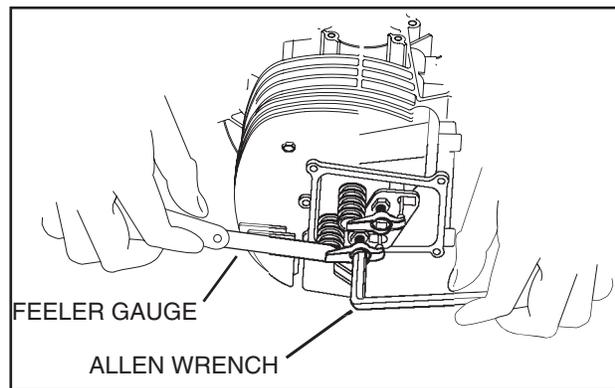

Figure 6-51. – Adjusting Valve Clearance
1. Loosen the rocker arm jam nut. Use a 10mm allen wrench to turn the pivot ball stud while checking the clearance between the rocker arm and valve stem with a feeler gauge (see Figure 6-51).